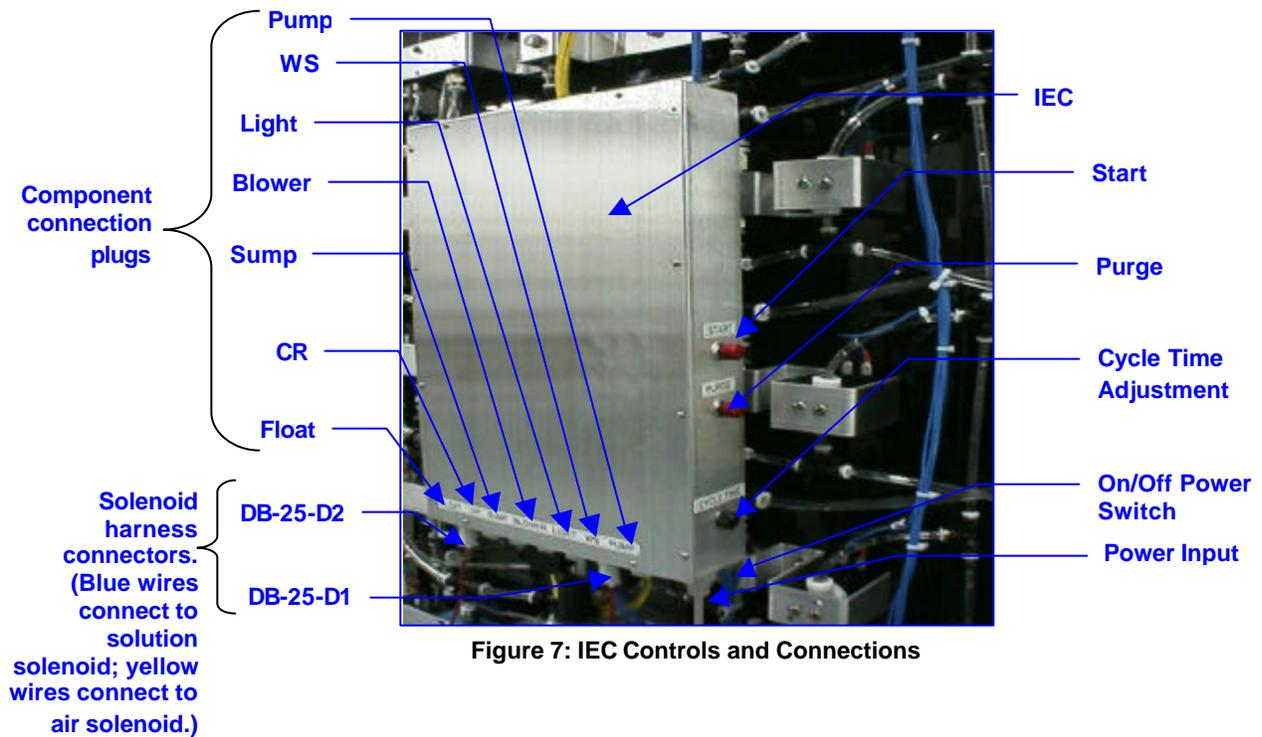

Figure 7: IEC Controls and Connections
The MT3000's IEC is located on the back of the MT3000. Figure 7 shows controls and connections of the IEC. Table 2 describes the functions of the IEC's controls/connections.
Step 2. Press the *Start* Button on (IEC). (See figure 7, page 10, for location.)
Unit will not start.	<ul style="list-style-type: none"> ◆ Make sure the machine is plugged in and powered On. (The internal light will be lit if powered.) ◆ Make sure the reset mechanism is working properly (T-Max, FST Timer, or remote pushbutton reset) ◆ Turn Off power for 10 seconds, then turn power back On to reset circuit board. (See page figure 7, page 10, for power switch location.)
No solution coming out of nozzles-- just air.	<ul style="list-style-type: none"> ◆ Press the Purge button (see figure 7, page 10 for Purge button location). If no solution comes out of nozzles, contact your MagicTan Distributor. Make sure there is NO air in the solution lines (see Purging Section, page 17).